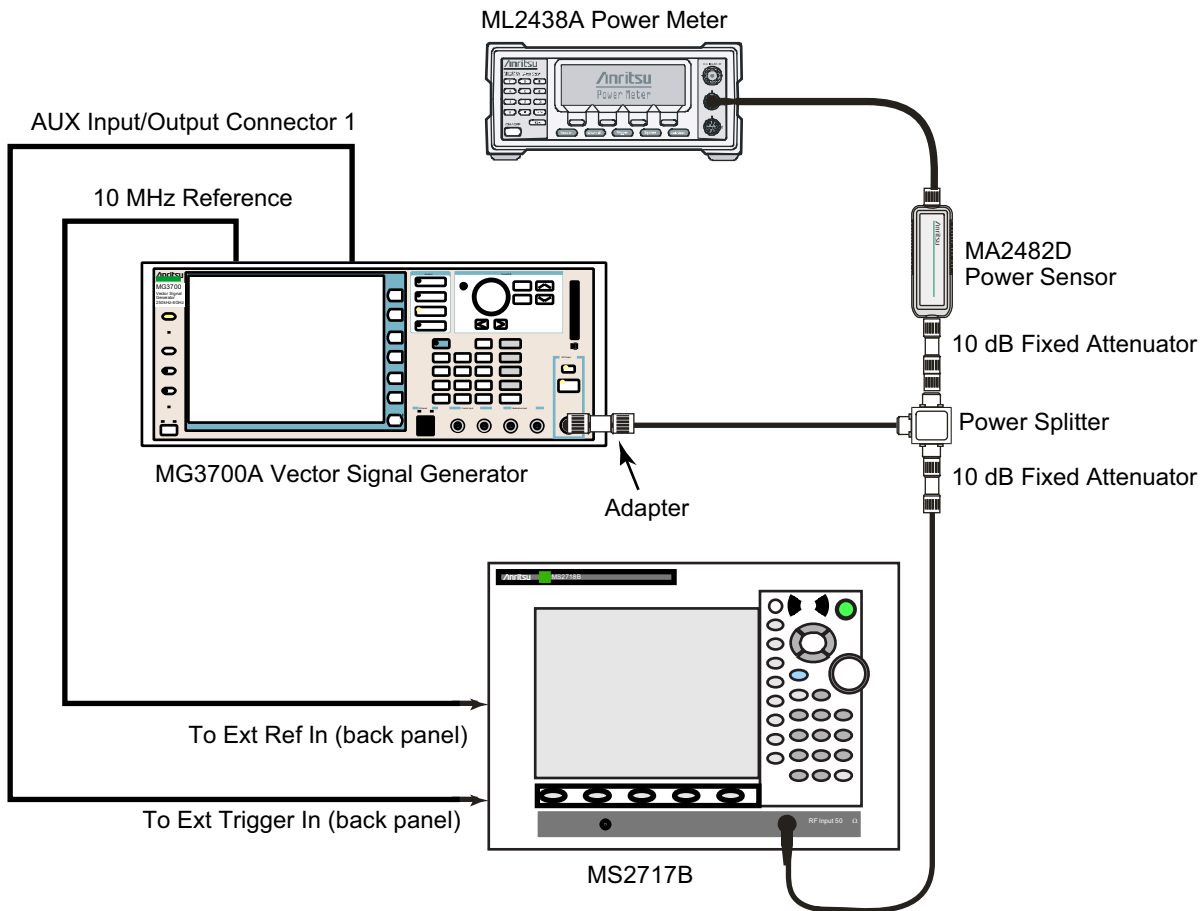

Figure 3-8. TD-SCDMA Signal Analyzer Option Verification
2. Connect the equipment as shown in Figure 3-8.